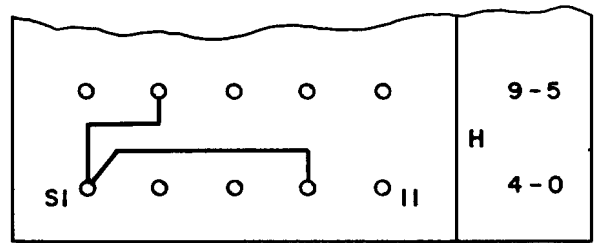

Fig. 9 - Two-Way Nonsequential Hunting Group Consisting of Station Lines 21, 24, and 28
2.11 A two-way nonsequential hunting group is formed by providing straps between the H terminals of the lines included in the group. For example, as shown in Fig. 9, if either line 21, 24, or 28 is dialed and found busy, call will be completed indiscriminately to whichever of the other two lines is idle.